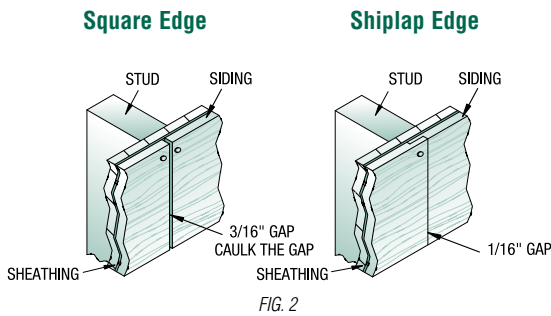

FIG. 2
- Leave 3/16" gap at all butt joints, around all doors and window frames, and at joints in the soffits for all lap and square edge siding. Caulk all gaps. See Fig 2.
- For all **shiplap edge** panels, there should be a 1/16" gap between the underlap edge and the next panel. An alignment ridge helps with this placement; do not force the edge of the panel over this ridge. *See Fig 2.* (NOTE: For Adobe panels, the shiplap edge will be visible unless a batten strip is used to cover it).
- For all **square edge** panels, there must be 3/16" gap at the vertical joint. This gap must be caulked; it is recommended to cover the joint with a wood batten (nailed 12" o.c.). TruWood Trim is recommended for batten material. *See Fig 2.*